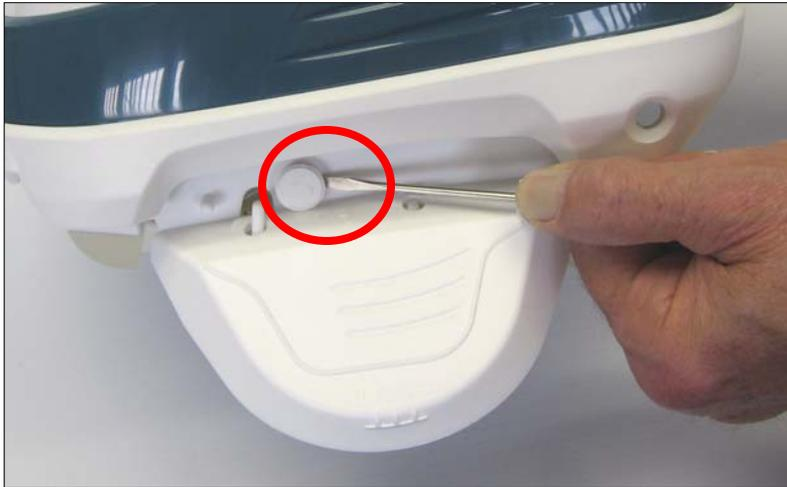

Figure 13
1. Using a screwdriver, remove the plugs from the pods on both sides (fig 13).